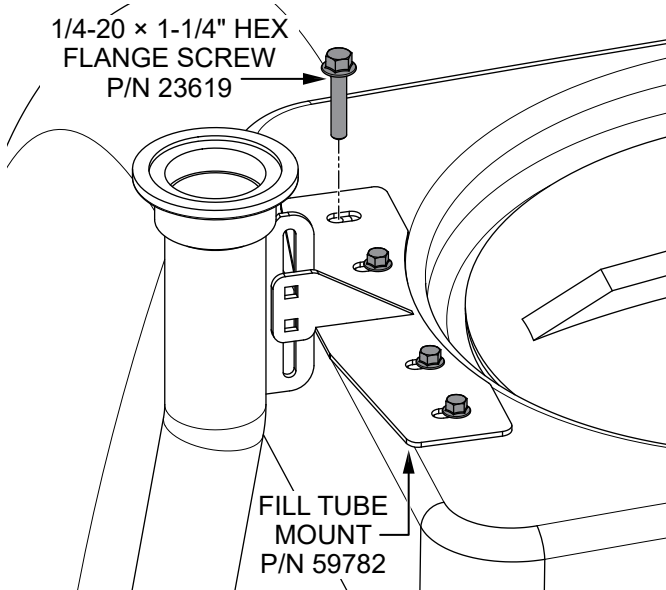

Figure 19. Install Fill Tube Mount Screws
- There are four 1/4-20 blind nuts installed inside the four holes at the front of the tank. Line up the four holes in the **fill tube mount (P/N 59782)** with the four holes in the front of the tank as shown in Figure 19. Loosely install **four 1/4-20 × 1-1/4" hex flange screws (P/N 23619)** to hold the fill tube mount in place. **DO NOT** fully tighten the screws at this time.